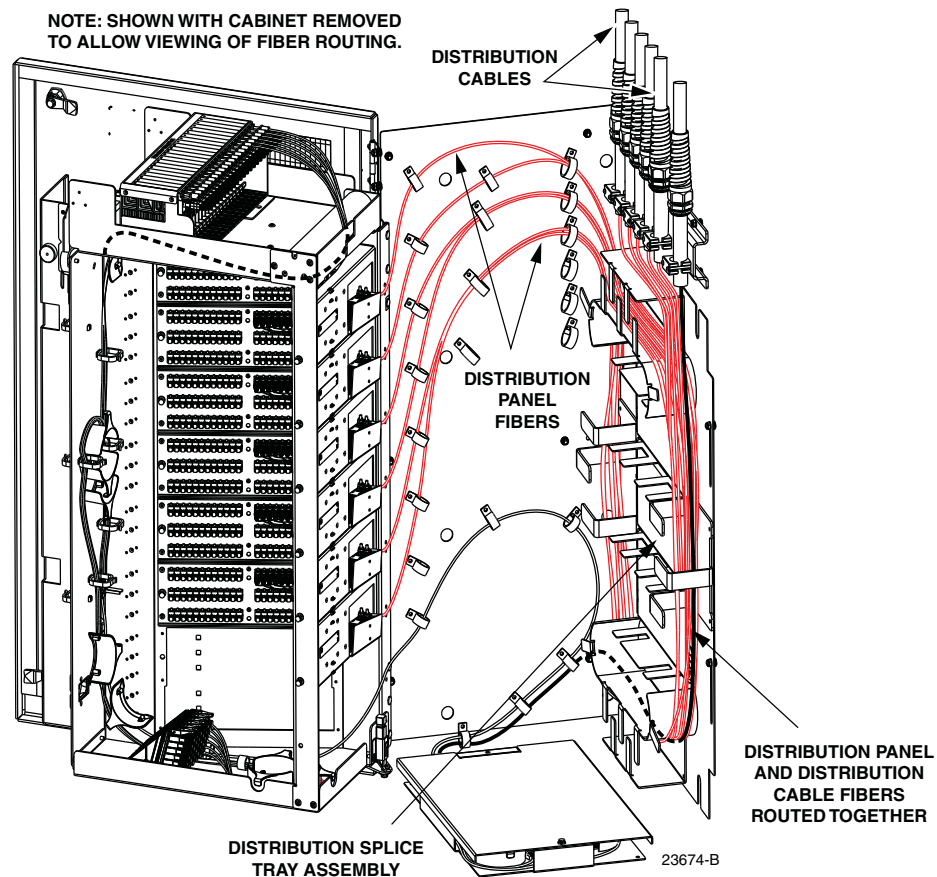

Figure 32. Distribution Splice Trays and Distribution Panel Fiber Routing – Ribbon
1. Locate the distribution splice tray assembly which is mounted at the back of the cabinet, as shown in Figure 32. Trace the routing of the distribution panel fibers and identify each splice tray and the corresponding distribution panel.